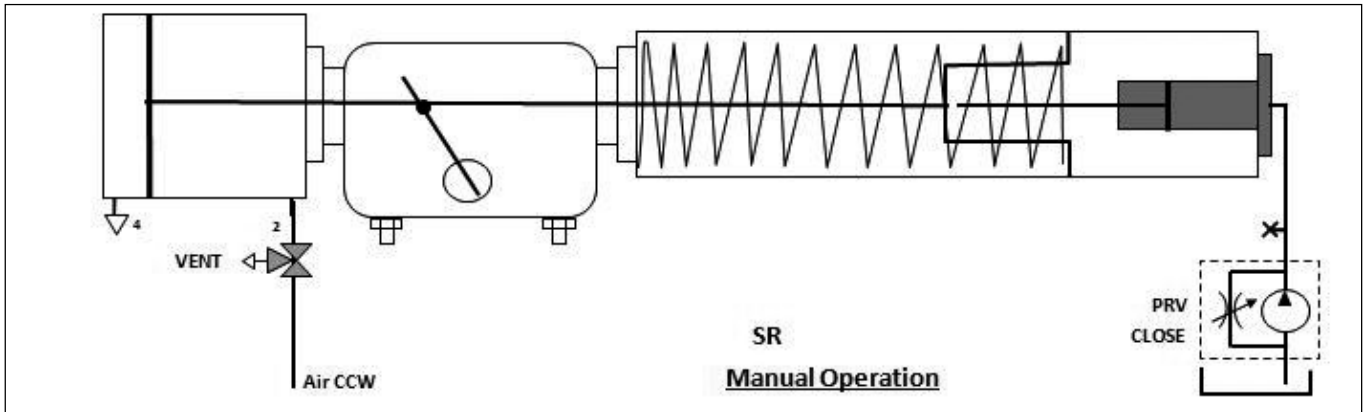

Fig.: 2 Install Hydraulic Override (SR)
4.2 Install hydraulic override onto existing heavy duty Spring Return actuator (see Fig.: 2)